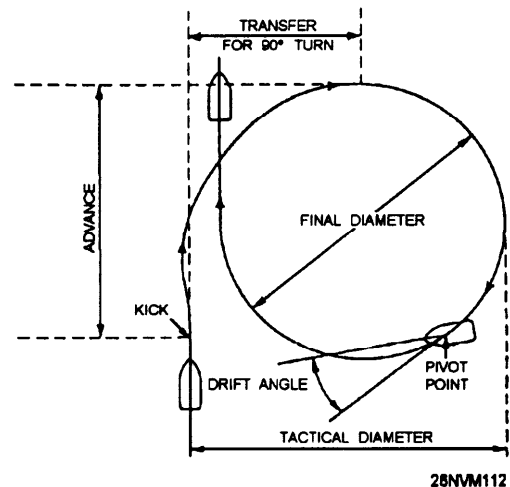

Figure 11-5. Turning circle.
**Fundamentals of Shiphandling** Before we can discuss the techniques used to steer a ship, you'll have to learn the basics of shiphandling. Use the following table and figure 11-5 to learn the terms associated with a ship's characteristics.